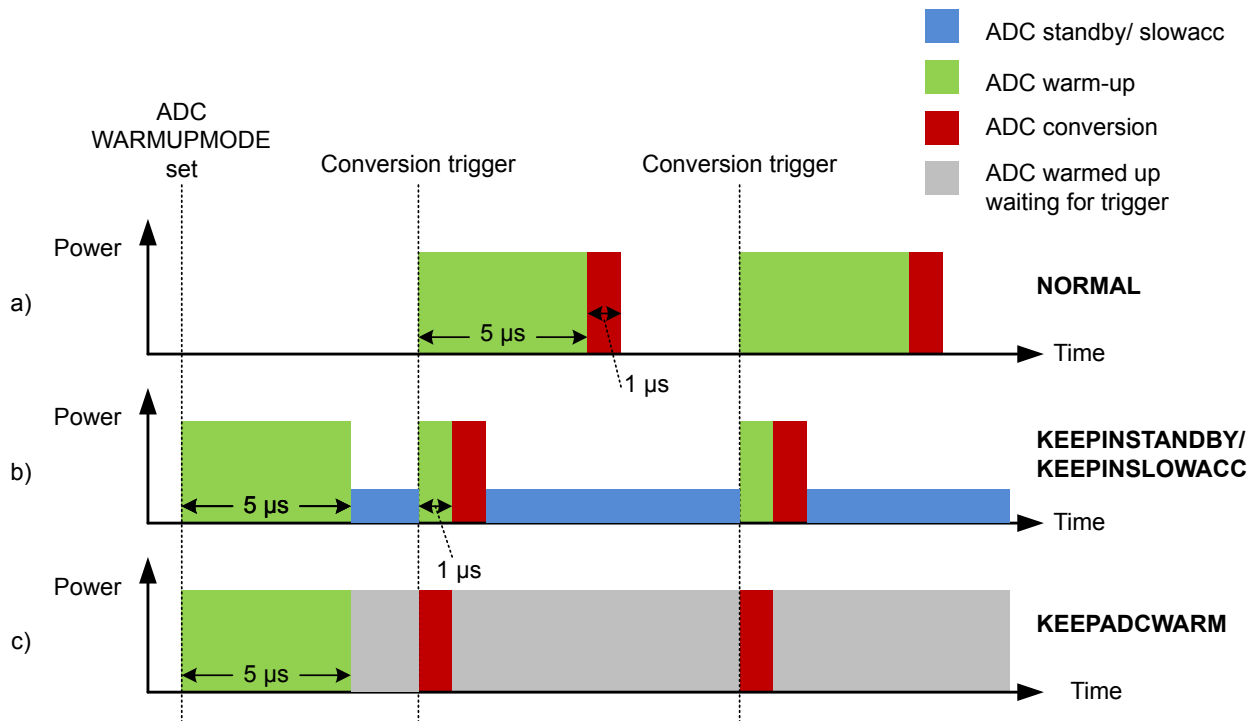

Figure 25.4. ADC Analog Power Consumption With Different WARMUPMODE Settings
Normally, the ADC will be warmed up only when samples are requested and is shut off when there are no more samples waiting. However, if lower latency is needed, configuring the WARMUPMODE field in ADCn_CTRL allows the ADC and/or reference to stay warm between samples, reducing the warm-up time or eliminating it altogether. Figure 25.4 ADC Analog Power Consumption With Different WARMUPMODE Settings on page 863 shows the effects on analog power consumption in scenarios using different WARMUPMODE settings.
- **NORMAL:** This is the lowest power option for general-purpose use and low sampling rates (below 35 ksps). The ADC and references are shut off when there are no samples waiting. The ADC does not consume any power when it is shut down. A 5 μ s warmup time will be initiated prior to every conversion. Figure a in Figure 25.4 ADC Analog Power Consumption With Different WARMUPMODE Settings on page 863 shows this mode.
- **KEEPINSTANDBY:** This mode is suitable for infrequent sampling of lower impedance inputs, and is the lowest power option for sampling rates between about 35 and 125 ksps. It may also be useful for lower sampling rates where latency is important. The reference selected for scan mode is kept warm, but the ADC is powered down. The ADC will initiate a 1 μ s warmup period before a conversion begins. Because the reference is kept warm, the ADC will consume a small amount of standby current when it is not converting. Figure b in Figure 25.4 ADC Analog Power Consumption With Different WARMUPMODE Settings on page 863 shows this mode.
- **KEEPADCWARM:** This mode provides the lowest latency and allows for maximum sampling rates. The ADC and reference circuitry remain powered on even when conversions are not in progress. Figure c in Figure 25.4 ADC Analog Power Consumption With Different WARMUPMODE Settings on page 863 shows this mode. This mode consumes the most power, but as soon as a trigger event occurs, the acquisition and conversion begin with no warm-up time. Note that if KEEPADCWARM mode is set and HFXO is selected as the ADC clock source, the HFXO will remain on in EM2.